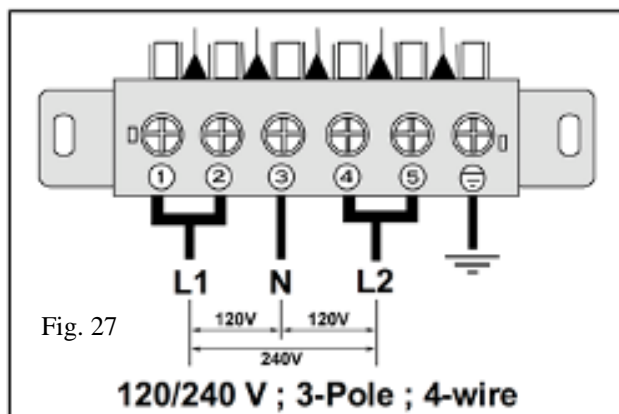

Fig. 27
- Secure the cable by means of cable clamp, item **Q** (Fig. 27).